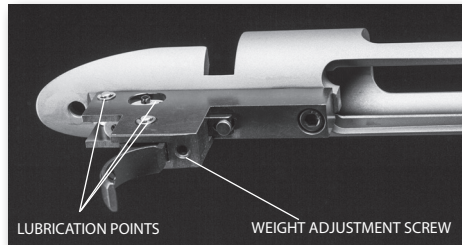

Fig. 10
3. To increase weight of the trigger pull, with a 5/64 Allen wrench turn the weight adjustment screw clockwise until desired weight of trigger pull is established. To decrease weight of trigger pull turn the weight adjustment screw counter-clockwise until desired weight of trigger pull is established (refer to *Fig.10*).